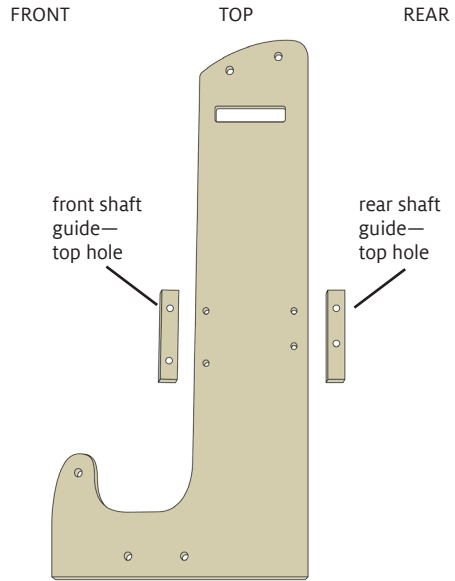

FIGURE 3: CASTLE SIDE AND SHAFT GUIDES
3. Lay the castle sides flat on a work surface so that they mirror each other. The taller straight edges will sit at the back of the loom; the shorter curved edges will sit at the front (Figure 3).
5. Place a rear shaft guide on the **inner side** of a castle side, with the holes at the top of the guide as shown in Figure 3. From the **outer side** of the castle, insert a #8 x 3/4" Phillips pan head sheet metal screw into the top hole of the guide. Attach the guide through **the top hole only**. Repeat for the other rear shaft guide on the other castle side, as shown in Figure 5A.